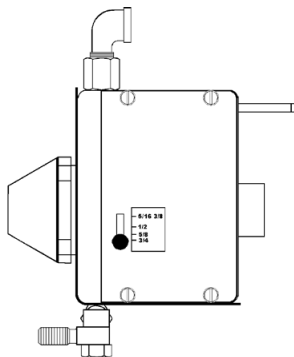

FIGURE 7 - GUIDE BLOCK ON N6000 TORCH HEAD
2. Adjust the guide block for the electrode diameter being used. Loosen thumbscrew, adjust, and then tighten the thumbscrew again (See Figure 7).